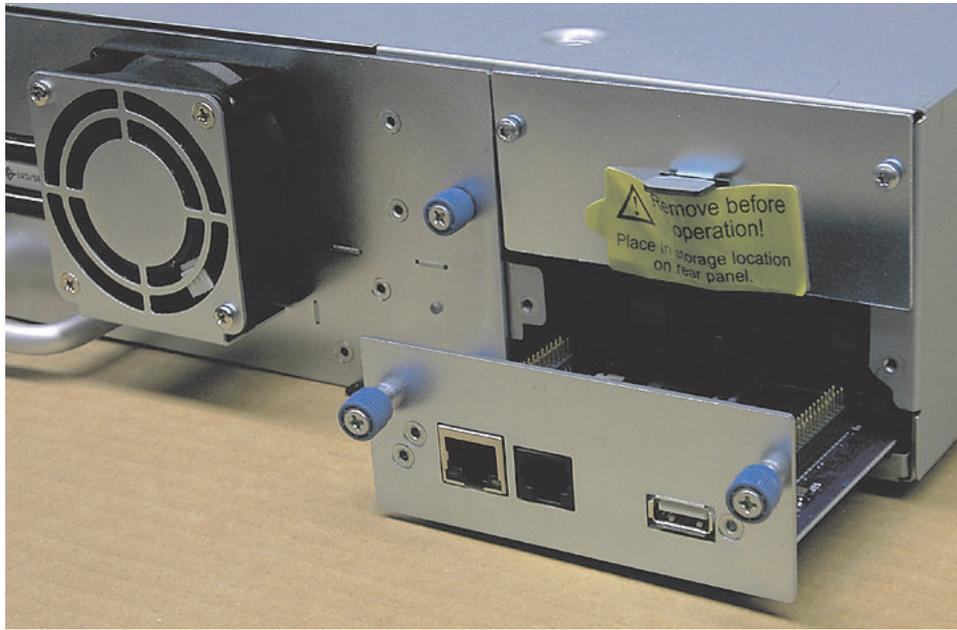

Figure 7. Removing the controller card
5. Pull the controller card out of the autoloader chassis as shown in Figure 7 on page 23.